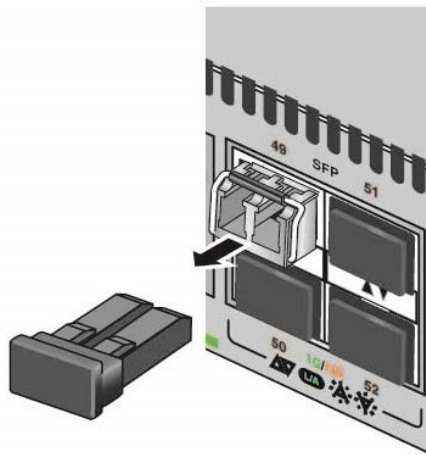

Figure 32. Removing the Dust Cover from an SFP Transceiver
6. Remove the dust cover from the transceiver, as shown in Figure 32 on page 74.